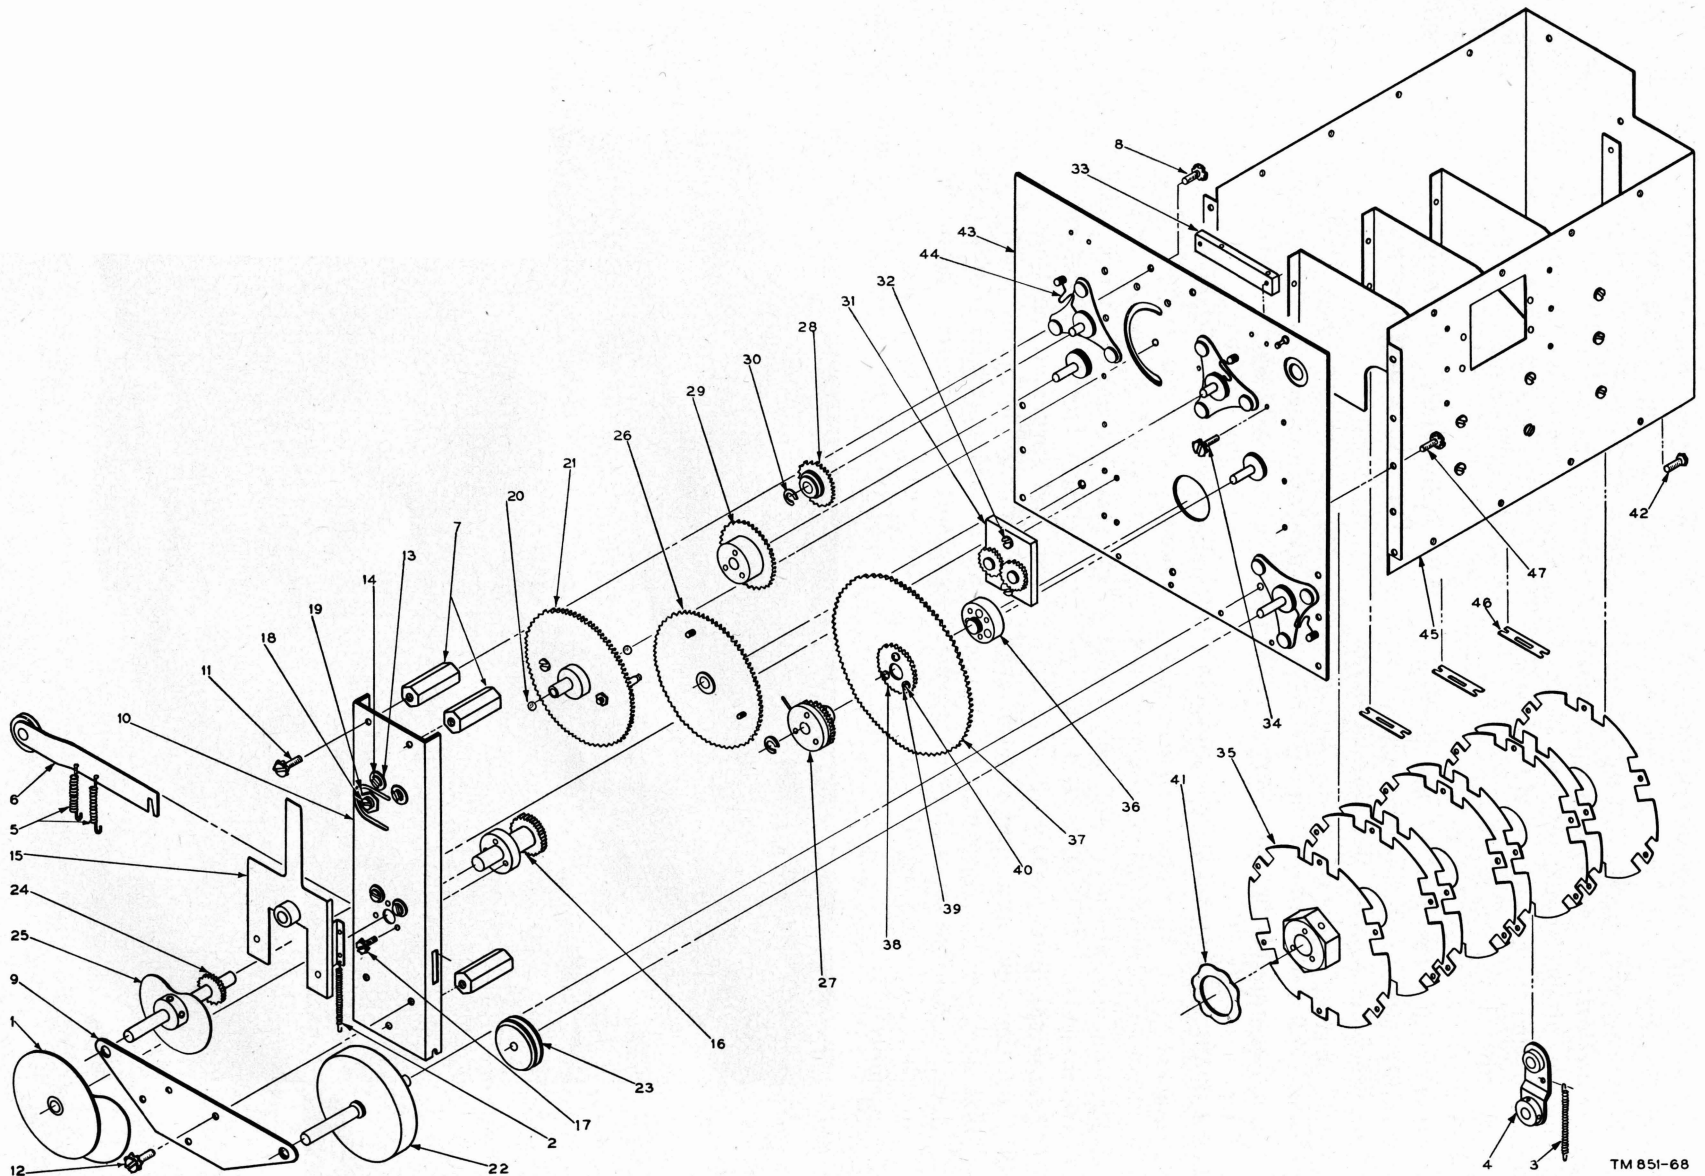

Figure 90. Radio receiver, all types, gear-train assembly, exploded view.
- (5) Remove two No. 10-32 screws and one stud post assembly on either side of the tuning unit assembly, which screw into the nut plate brackets through clearance holes in the gear-train plate and chassis proper.
- (6) Remove one No. 10-32 screw in the angle bracket on the rear of the tuning unit assembly that passes through the clearance hole at the back of the chassis proper, and then lift out the tuning unit assembly.
*b. Disassembly of Gear-Train Assembly* (fig. 90). Disassemble the gear-train assembly to the extent required to replace a faulty part. The number following each item below represents the callouts on figure 90.
- (1) Remove the indicator slide helical spring (2), conversion switch helical spring (3), and two band change helical springs (5).
- (2) Remove the conversion switch lever assembly (4) and the band change cam detent roller and lever assembly (6).
continue (b above) to disassemble the gear-train assembly. All mechanical parts may be cleaned by brushing with solvent SD or Kerosene, Federal Specification VV-K-211b. To remove corrosion, use No. 000 sandpaper, and wipe dry with a clean, lint-free cloth. Dirty gears are cleaned best with a pipe cleaner or small brush dipped in the cleaning fluid. If cleaning necessitates the removal of grease, replace this with Grease, Military Specification MIL-G-3278. The grease is applied to the front bearing hub (36, fig. 90), rear bearing machine screw (42), and two ball bearings (20); also, to the five tempered shafts on the base plate assembly (43), the shaft of the flywheel (22), the shaft of the gear assembly (16), and to the shaft of gear assembly (24) at the bearing location of each.
- (1) Reassemble the tuning unit shield assembly (45, fig. 90) to the base plate assembly (43).
- (2) Reassemble the mounting disk and shaft assembly (35) to the tuning unit shield and base plate assembly by locating the curved washer (41) on the large nut at the front end and then seating the combination into the assembly.
*Note.*—The eight mounting disks are each provided with a locating hole which are meshed for alinement when assembling the mounting disk and shaft assembly (35). A trued  $\frac{3}{16}$ -inch diameter steel lineup rod 12 inches long is used for this purpose.
- (3) Add the front bearing hub (36) to the front end of the mounting disk and shaft assembly (35), using three No. 8-32 screws (40) and three split lockwashers
(39); also, add the machine screw (42) which acts as the rear bearing.
*Note.*—Make sure that curved washer (41) is centered on the large nut at the front end of the assembly (35) before tightening the two bearings. Lubricate both bearings (c above).